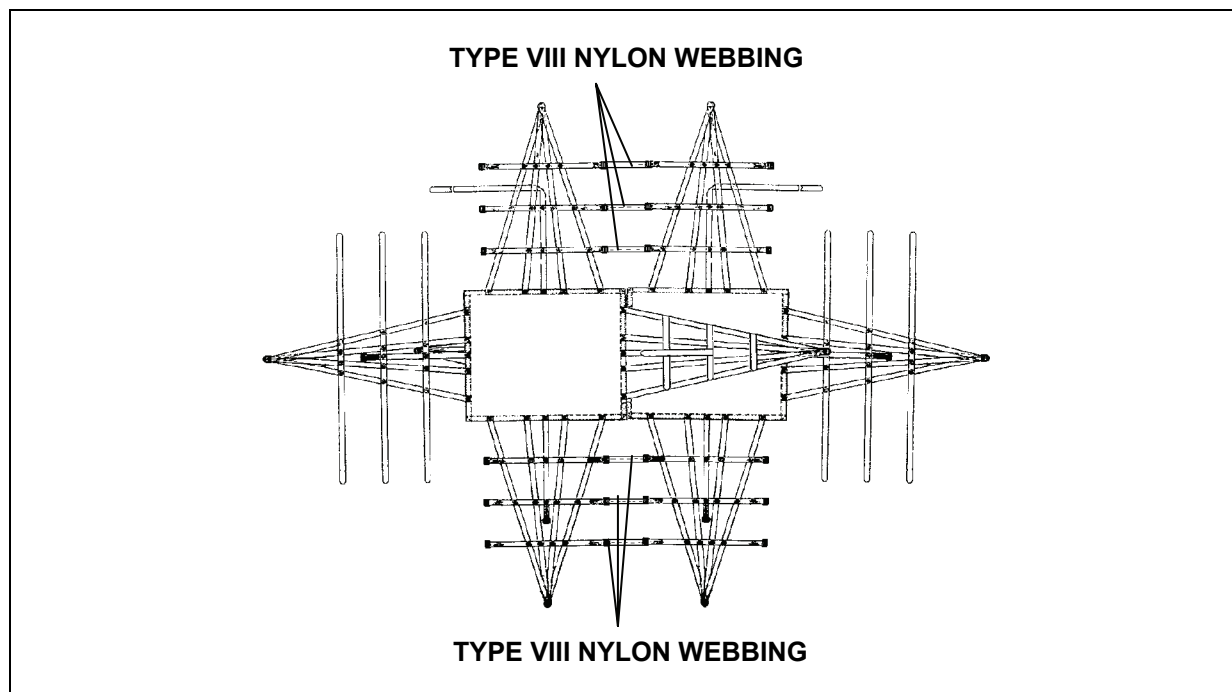

Figure 8-12. Type VIII Nylon Webbing Routed Through Friction Adapters
- Cut six lengths of Type VIII nylon webbing. Route one length through each set of friction adapters at the midsection of the load as shown in Figure 8-12. Do not apply tension at this time.